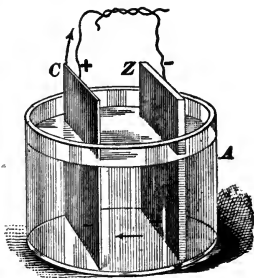

FIG. 2.
**12.** A simple voltaic, or galvanic, cell, Fig. 2, is an apparatus for developing a continuous current of electricity. It consists essentially of a vessel containing saline or acidulated water in which are submerged two plates of dissimilar metals, or one metal and a metalloid (as, for instance, carbon).